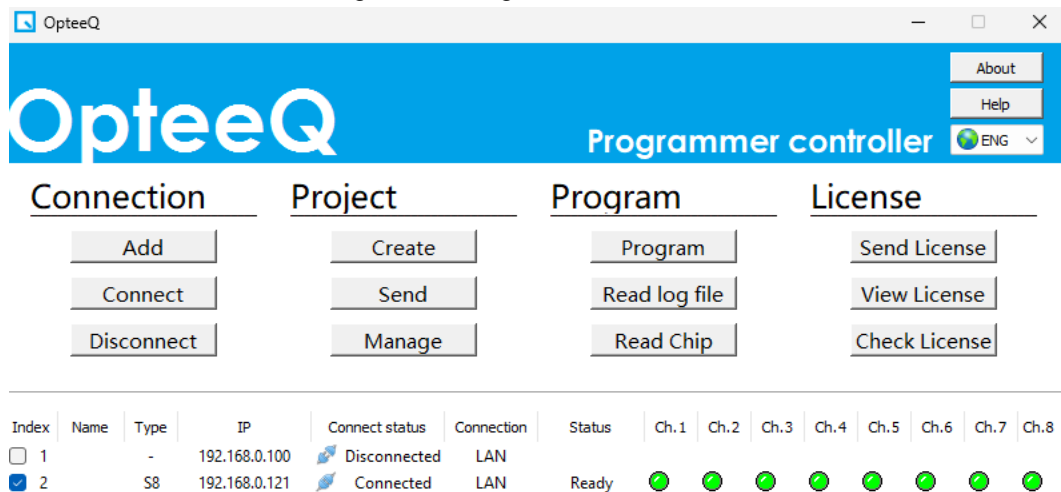

Figure 4.10 Display Interface Showing Successful Connection of the Programmer
- 2) The display interface showing that the programmer has been connected successfully is shown in Figure 4.10. When the PC is connected to the programmer successfully, the "LINK/link" LED indicator in the programmer lights up.